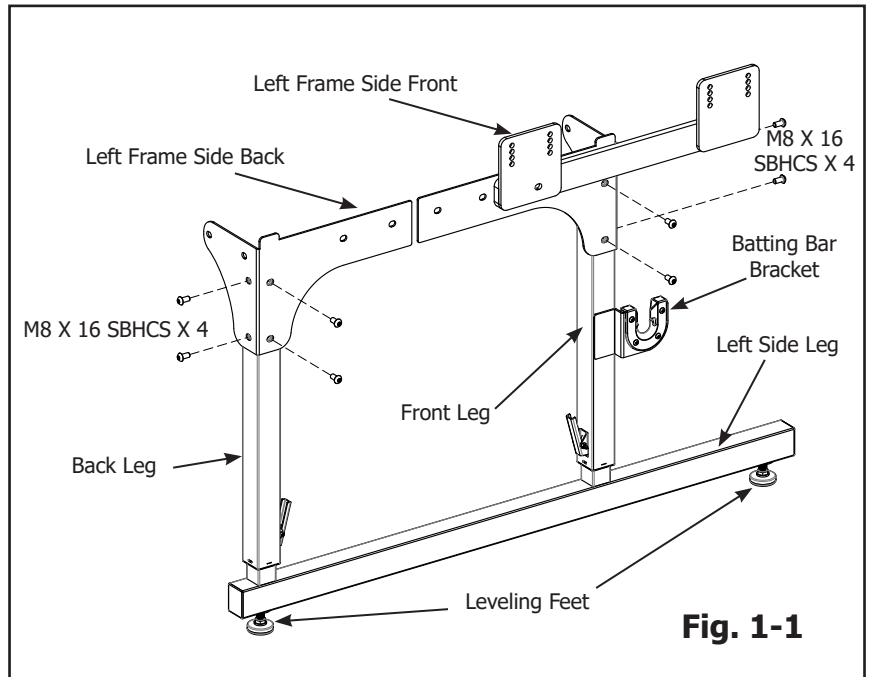

Fig. 1-1
Remember that the batting storage pole bracket needs to be on the outside of the leg. (Fig. 1-1)
- 1-1:** Screw two (2) leveling feet into the bottom of the left side leg about half way, as shown in Fig 1-1. This will make leveling easier later on.
- 1-2:** Attach the left frame side back onto the side leg with two (2) M8x16mm SBHCS screws into the back of the back leg. Next install two (2) more M8 x 16mm SBHCS screws into the side of the back leg. Finger-tighten the screws only for now. You will tighten the screws with an Hex tool later in **Step 4-9**.
- 1-3:** Attach the left frame side front onto the side leg using two (2) M8 x 16mm SBHCS screws into the front of the front leg. Next install two (2) more M8 x 16mm SBHCS screws into the side of the front leg. Finger-tighten the screws only for now. You will tighten the screws with an Hex tool later in **Step 4.9**.